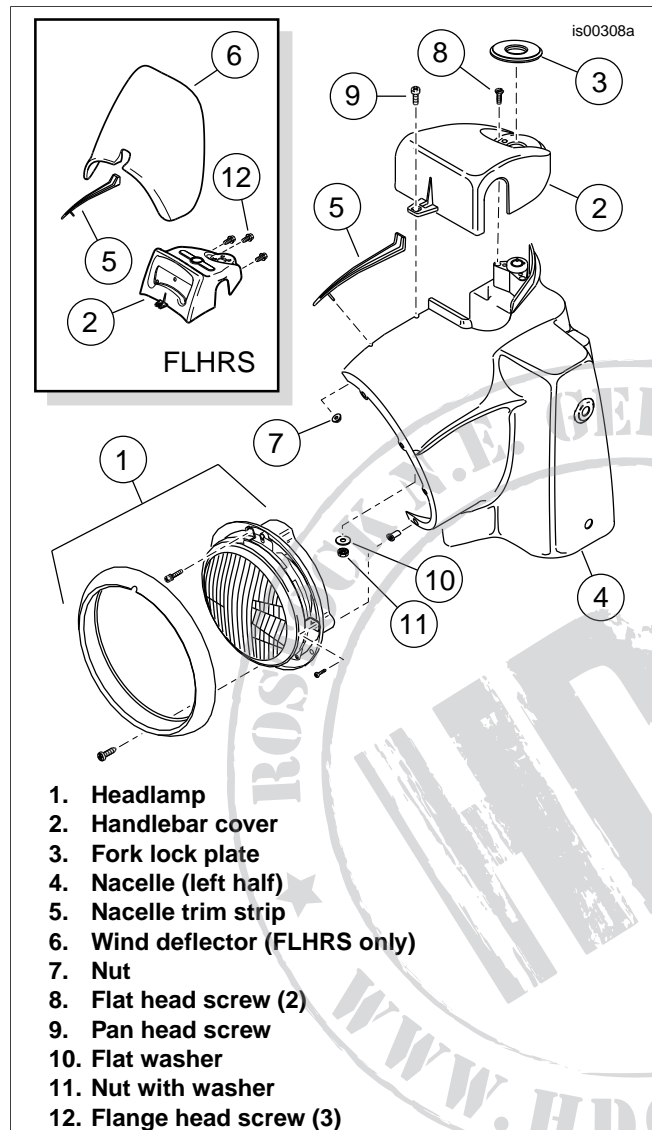

Figure 3. Nacelle, Headlamp and Handlebar Cover (FLHR Shown)
14. **For ALL Road King models:** See Figure 3. Reach inside the headlamp nacelle (4), and remove the flange nut (7) to release the trim strip (5) at the top of the nacelle.
*Fat ape and fat mini-ape handlebars are not compatible with the OE wind deflector (6) on **FLHRS models**. The deflector and trim strip (5) on those models can be discarded, and a **new trim strip** (H-D Part No. 67868-03, available separately) must be installed.*
15. **For North America:** Remove and retain the two flat head Phillips screws (8) underneath the label plate that hold the handlebar cover to the fork lock.
**For Australia, Brazil, England, Europe and Japan:** The flat head screws (8) have break-away heads and are not easily removable. To remove screws with break-away heads, make a pilot hole in the top of each screw with a center punch and back out the screw with a 1/8-inch (3 mm) **left-hand** drill bit.